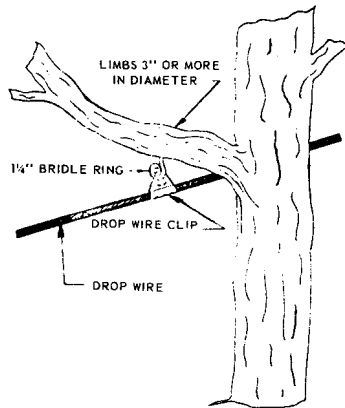

Figure 3. Drop Wire Clip Tree Attachment
- b. Do not use bridle rings for attaching drop wires which cross streets or highways when there is a pull away from the limb. On drop wires not requiring double deadends, the drop wire may be attached to bridle rings with a straight drop wire clip, as illustrated in Figure 3.